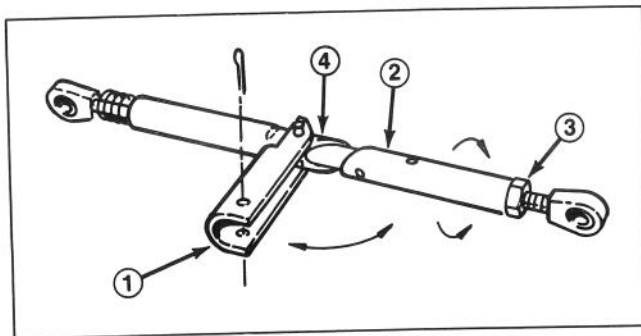

Figure 37
- A. Remove hair pin cotter and pivot belt tension rod handle outward (away from cutting unit) (Fig. 37).